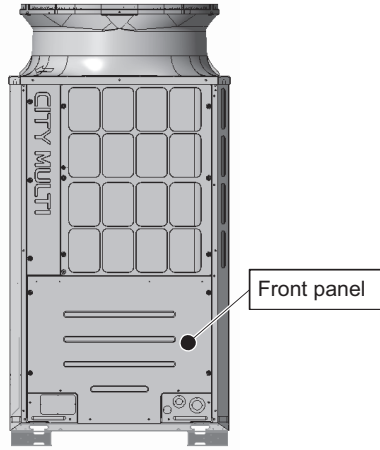

Figure 1
Unscrew the two screws indicated with arrows in Figure 1-a, and pull up the duct to remove it. (Figure 1-b shows the unit after the duct was removed.)
- (1) Remove the front panel from the unit by unscrewing the eight screws. (See Figure 1.)